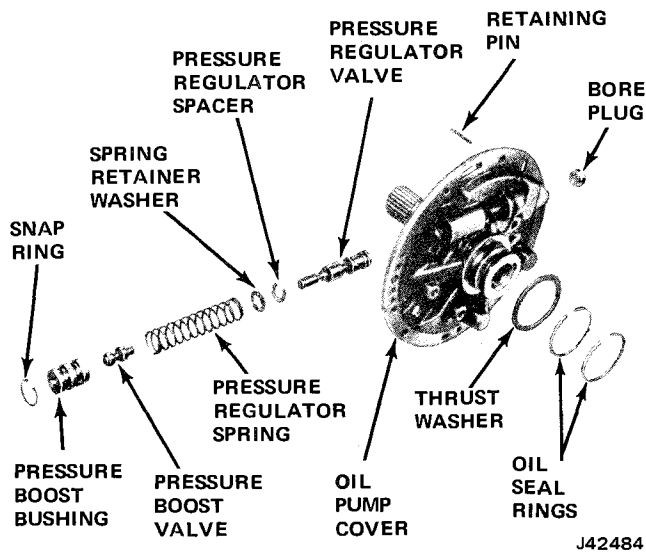

Fig. 2C-65 Oil Pump Cover Assembly
- (7) Remove oil rings and thrust washer from pump cover (fig. 2C-65).
- (8) Mark oil pump drive and driven gears for assembly alignment reference and remove gears (fig. 2C-67).